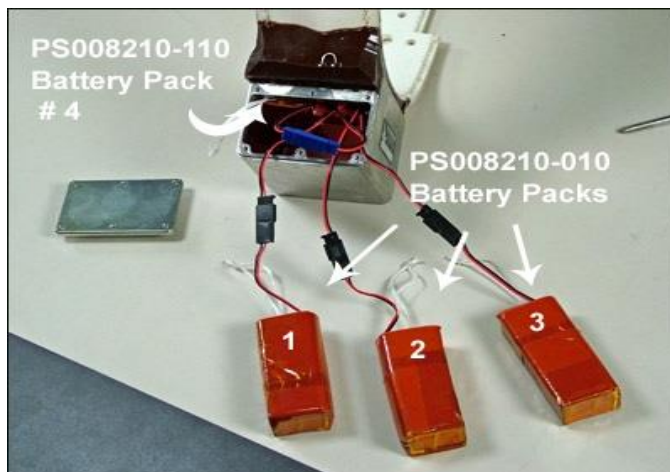

FIG. 3 VHF Pack #4 installed
1. Take a new battery pack with a blue connector **PS008210-110**, and mate it with the blue VHF power connector. Insert the pack into the upper left hand corner of the housing, in position #4. **(Fig. 3)** Take three battery packs with black connectors **PS008210-010**, and mate them with the three black GPS power connectors. Insert the first pack into the lower right hand corner of the housing, in position #3, the second pack into position #2, and place the last pack in position #1.